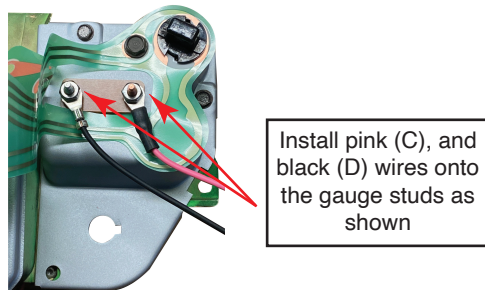

FIGURE 8
13. Connect the pink 12v ignition wire (C) ring terminal to the voltmeter's copper colored stud. Install and tighten the washer and nut removed previously. **Important:** Do not overtighten the nut (See Figure 8).
14. Connect the black wire (D) with the ring terminals on either end to the voltmeter's silver colored stud. Install and tighten the washer and nut removed previously. **Important:** Do not overtighten the nut (See Figure 8).